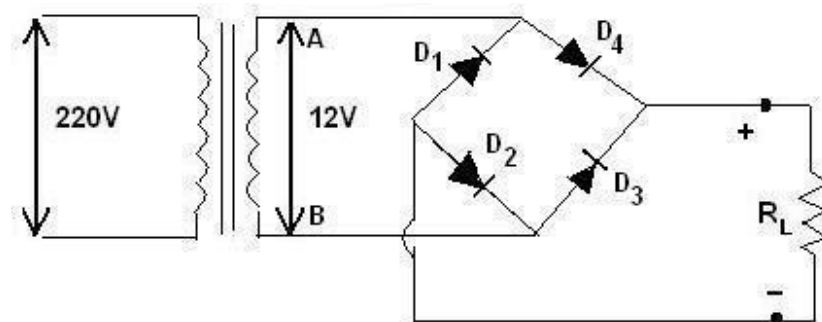

Figure 6.3. 4-Bridge Full Wave Rectifier
- Make a full-wave rectifier circuit using IN4001 diodes as shown in Figure 6.3., with $R_L = 10 \square \square$